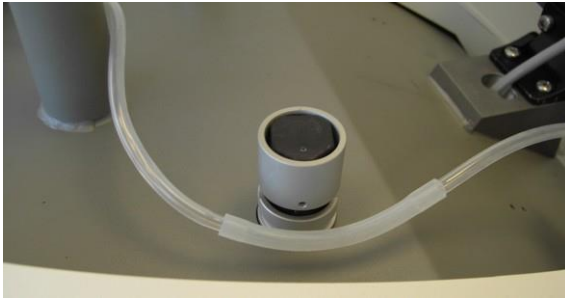

Figure 3-63. Positioning the Extraction Tube's Thick Inset Next to the Left Electrovalve
19. Position the extraction tube's thick inset next to the system's left electrovalve, as shown in Figure 3-63.